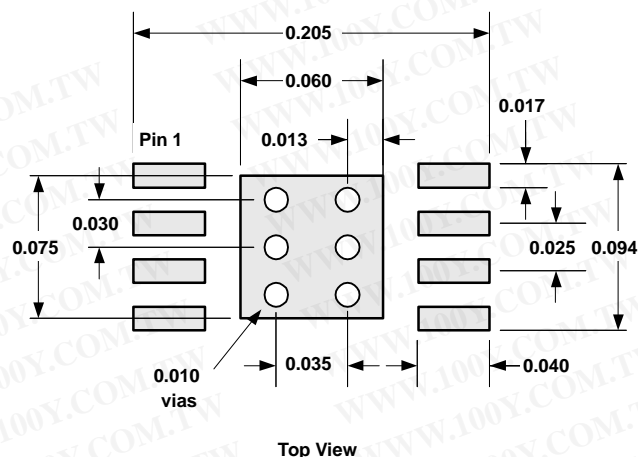

Figure 58. DGN PowerPAD PCB Etch and Via Pattern
1. PCB with a top side etch pattern as shown in Figure 58. There should be etch for the leads as well as etch for the thermal pad.